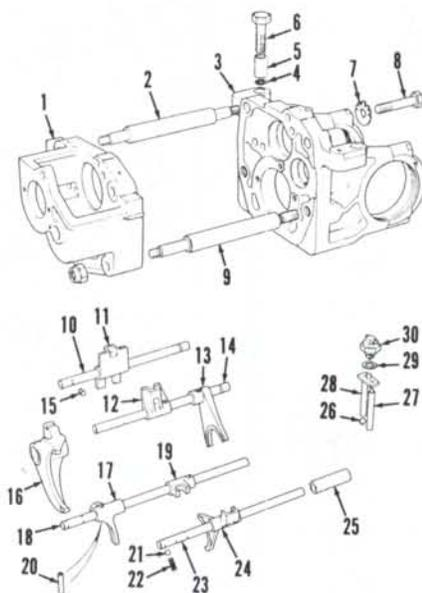
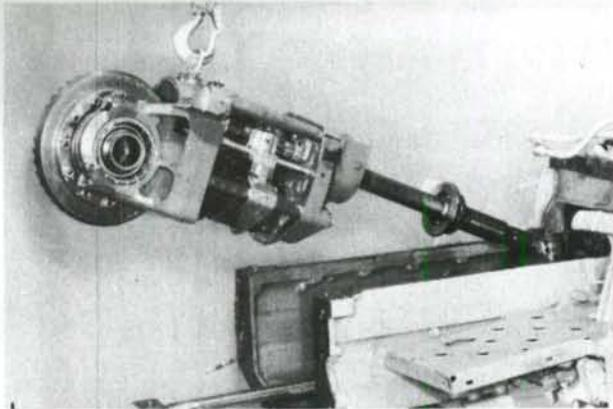
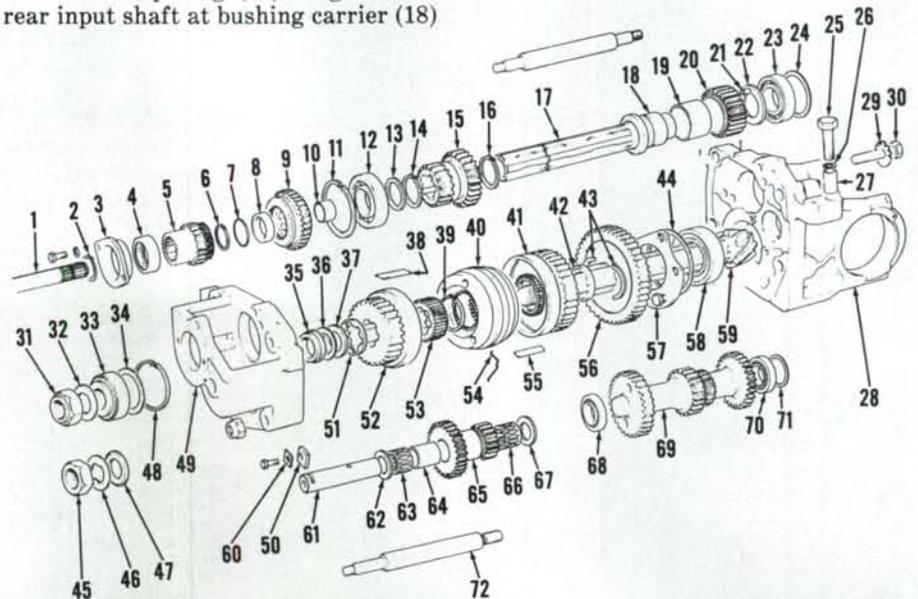

Fig. 174—Exploded view showing end plates, shift rods and shift forks used on 1190, 1194, 1290, 1294 and 1390 models.
Fig. 175—Attach a hoist to transmission as shown and remove unit rearward from main frame.
Fig. 179—Exploded view of 12-speed synchromesh transmission used on 1190, 1194, 1290, 1294 and 1390 models.
Remove lubrication line from transmission. Remove mounting bolts from clutch shaft bearing carrier. Remove transmission mounting bolts and bushings. Remove transmission rearward from main frame (Fig. 175).
Fig. 174A—Exploded view of end plates, shift rods and shift forks used on 1394, 1490, 1494, 1594 and 1690 models. Refer to Fig. 174 for legend except for the following:
**224. REINSTALL.** Using a hoist, install transmission assembly in main frame (Fig. 175). Install mounting bolts and bushings. Tighten bolts to 163 N·m (120 ft.-lbs.) torque, then measure clearance between bolt heads and end plate using a feeler gage as shown in Fig. 176. Clearance should be 0.08-0.50 mm (0.003-0.020 inch). If clearance is not within this range, add or remove shims (4—Fig. 174) below bushing (5). Tighten clutch shaft bearing retainer mounting bolts to 23-27 N·m (17-20 ft.-lbs.).
Remove mounting bolts from input shaft rear bearing carrier (3—Fig. 179) and remove input shaft (1) assembly. Remove snap ring securing input shaft front bearing carrier, then slide carrier from shaft. Remove "O" ring and oil seal from front bearing carrier. Remove seal (8) and "O" ring (7) from input gear (5). Remove snap rings (2 and 6) and remove input gear and rear bearing carrier with bearing from input shaft.
Remove neutral start plungers (27 and 28—Fig. 174) and detent balls (26) from rear housing. Remove first and reverse shift rod assembly and second and third shift rod assembly. Remove countershaft assembly (69—Fig. 179) and rear input shaft (17) assembly.
If shifting into second or third has been difficult, examine synchronizer friction surfaces and the synchronizer pads (38 and 55—Fig. 179). Slight radial clearance (looseness) in synchronizer is normal and the pads should slide easily into their grooves without binding. No attempt should be made to disassemble synchronizer assembly as individual service parts are not available.
**230. PINION SHAFT ASSEMBLY.** With pinion shaft (59—Fig. 179), bearing (58) and correct thickness of shims (44) in position, install retainer plate (57) and tighten retaining bolts to 40 N·m (30 ft.-lbs.) torque. Install first/reverse gear (56) with shift fork groove toward retainer plate (57). Install split rings (43) and spacer (42). Apply grease to the six bearing pads (55) and install pads in splines of pinion shaft (59).
**231. REAR INPUT SHAFT ASSEMBLY.** Press bushing (10—Fig. 179) into rear input shaft (17). Press bushing (19) into reverse idler gear (20).
(24). Install front housing (49) and tighten spacer bar nuts to 95 N·m (70 ft.-lbs.) torque. Mount dial indicator on front housing so probe touches end of rear input shaft. Move shaft up and down and measure end play. Correct end play is 0.05-0.43 mm (0.002-0.017 inch). Remove front housing and the rear input shaft assembly. Assemble and install shims (24) as necessary in rear housing bearing bore to obtain correct end play. Reinstall rear input shaft assembly.
Heat bearings (68 and 70—Fig. 179) to 120°C (250°F) maximum before installing on countershaft (69). Install bearing cup in rear housing without shims (71). Position countershaft in rear end housing, install front housing and tighten spacer bar nuts to 95 N·m (70 ft.-lbs.) torque.
Install bearings (63 and 66—Fig. 179) and spacer (64) into range idler gear (65). Bearing cages should be slightly
Install original shim pack (36—Fig. 179) removed during disassembly plus an additional 0.25 mm (0.010 inch) thick shim. Install shoulder washer (35) with flat side against shims. Install bearing cone, washer and nut on pinion shaft and tighten nut to 270 N·m (200 ft.-lbs.) torque. Position a dial indicator on front housing so probe contacts end of pinion shaft. Move pinion shaft up and down and measure end play. Remove nut and bearing, then reduce shim thickness as necessary to provide zero end play to 0.05 mm (0.002 inch) preload. Reassemble using a new nut and tighten nut to 270 N·m (200 ft.-lbs.) torque.